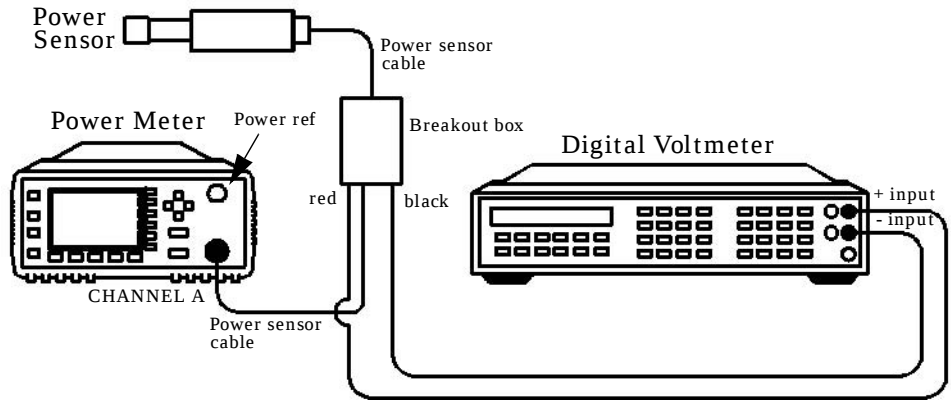

Figure 2-1: Instrument Accuracy (Normal Path) Test Setup
1. Connect the equipment as shown in Figure 2-1.